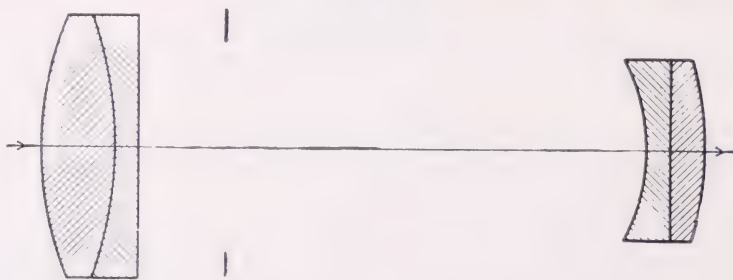

FIG. 34. A TELEPHOTO LENS—THE EASTMAN KODAK
*Telephoto*. When you want a fairly large image of a distant object, a telephoto lens is called for. A good example of such a lens is the Eastman Kodak Telephoto shown in *Fig. 34*. It has a focal length of six